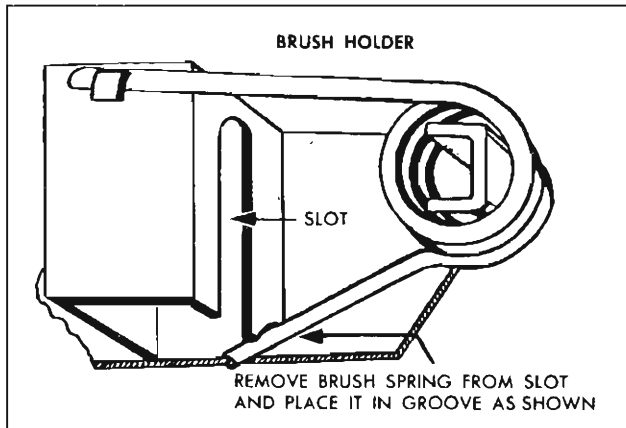

Fig. 53—Releasing Brush Spring Tension
3. Remove brush spring tension (fig. 53), slide armature and end plate from motor frame. Pull end plate from armature.